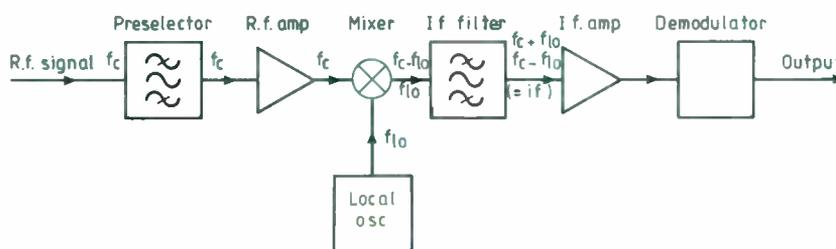

Fig. 1. Single-stage superheterodyne AM receiver block diagram.
Figure 1 shows the general layout of a single-conversion superhet receiver for a fixed signal channel with a carrier frequency of 200MHz. The basic principle is to convert any incoming signal's carrier to a fixed intermediate frequency (IF). The incoming signal is mixed with a local oscillator (LO) sinewave of 199MHz, producing an input to the IF stage of 1MHz, the frequency to which this stage is tuned. Unfortunately, with all practical designs of analogue mixer, there will also be a spectral component at 199MHz and another at 399MHz. The problem of removing these unwanted components is not as difficult as at first appears, since the LO contribution is of constant amplitude and will be removed by the demodulator. 399MHz is sufficiently far removed from the 200MHz carrier to be easy to filter out by the IF amplifier's tuned circuits.